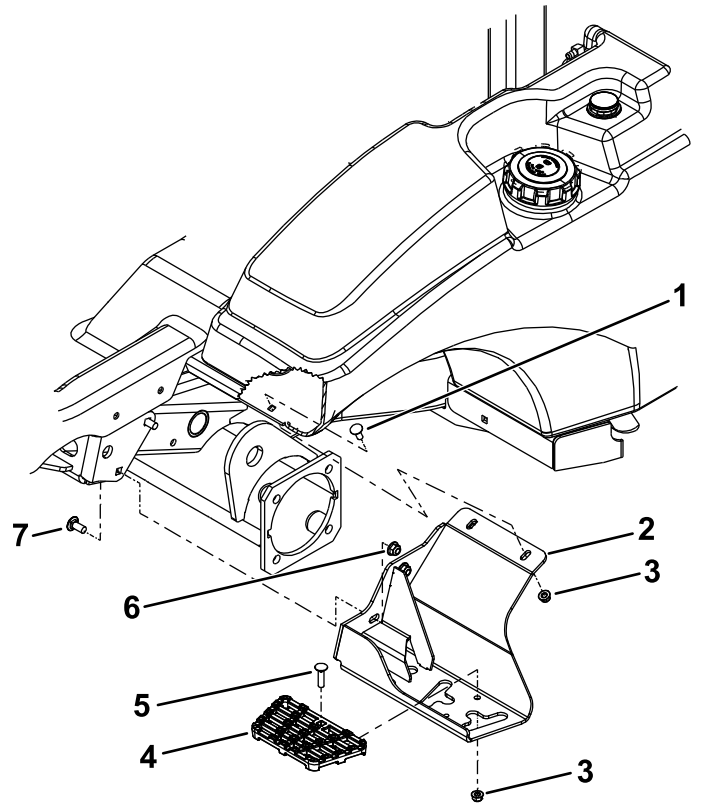

Figure 18
2. Install the deck step to the step mount with a carriage bolt (5/16 x 1-1/4 inch) and a nut (5/16 inch). Refer to Figure 18.
3. Install the step to the side of the machine with 2 carriage bolts (3/8 x 7/8 inches), 2 nuts (3/8 inch), a carriage bolt (3/8 x 7/8 inch), and nut (3/8 inch). Refer to Figure 18.